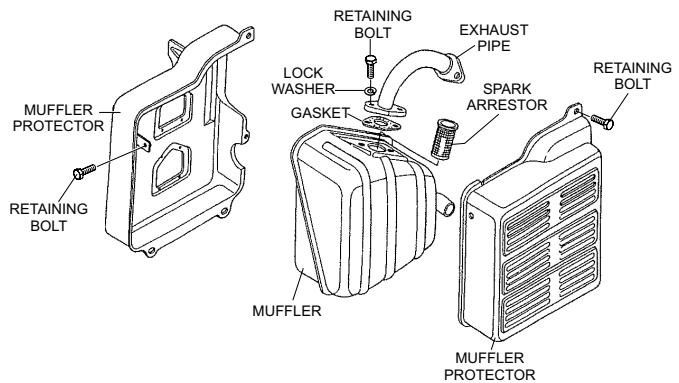

Figure 29. Spark Arrester Removal
1. Remove the muffler protector retaining bolts (Figure 29), then remove muffler protector.
2. Next, remove the retaining bolts and lock washers (2) that secures the exhaust pipe to the muffler, then remove spark arrester.